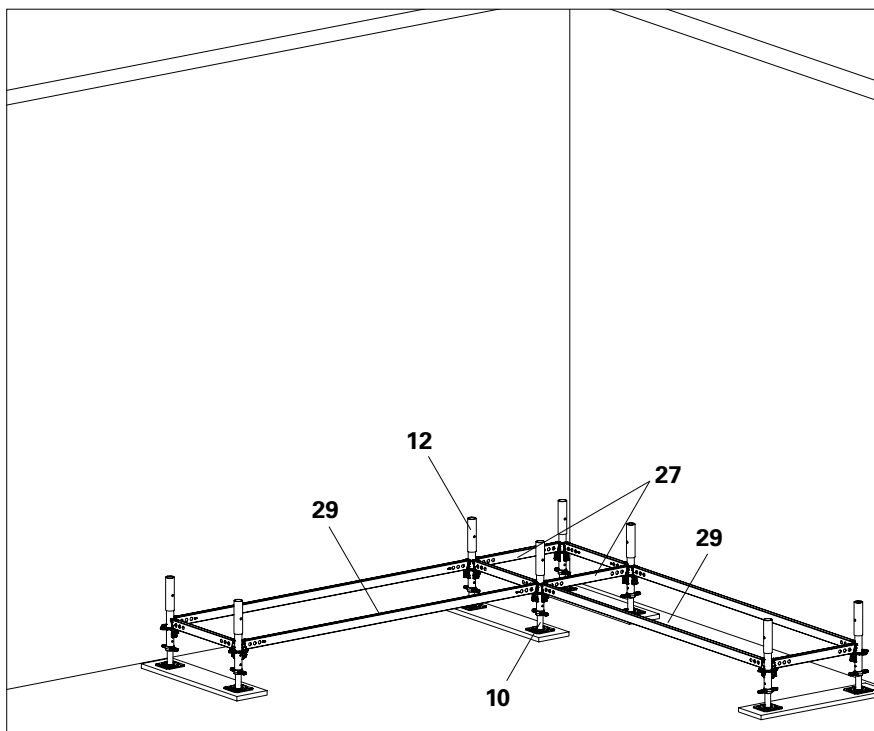

Fig. B6.08
- For the horizontal ledger arrangement, see Fig. B6.08 + B6.08a.